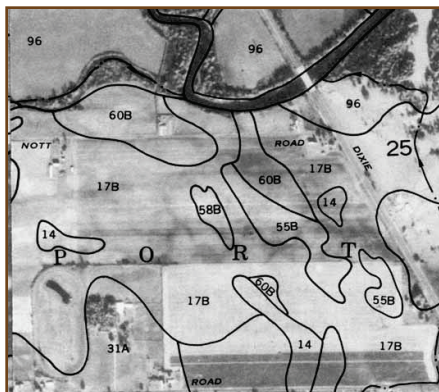

Figure 1.
- 1) For a general assessment of soil quality, select sample sites within a field that are representative of the field. Refer to soil maps of the area (Soil Survey) to identify soil type differences and variations within the map unit (Figure 1). A hand auger can be used to make a number of borings to establish locations of the most representative areas of the field.